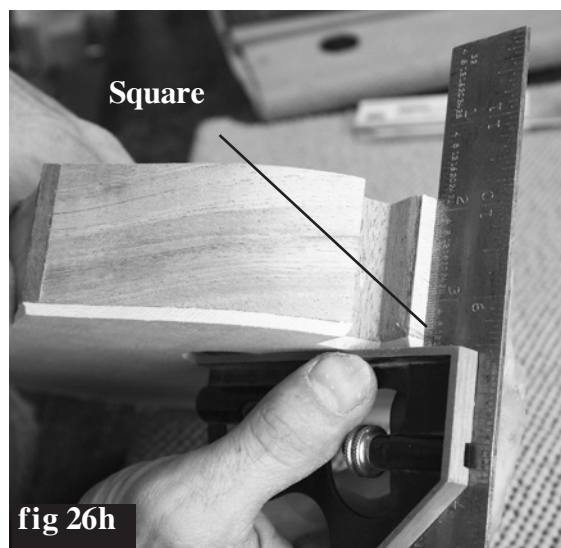

fig 26h
**CAUTION:** Be careful to keep the heel square to the top when you are sanding (fig 26h). This will be very important when fitting the neck and fretboard in place later.